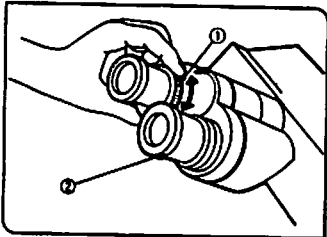

Fig. 47
2 Diopter Adjustment (Figs. 47, 48)
2. Looking through the left eyepiece with your left eye, turn the diopter adjustment ring ① to focus on the specimen. (Fig. 47)
1. Looking through the right eyepiece with your right eye, turn the knurled top of the eyepiece ② until two distinct sets of recticles and a clearly defined double crossline can be seen in the field of view. (Figs. 47, 48)
3. Looking through the left eyepiece with your left eye, turn the diopter adjustment ring ① to focus on the specimen.